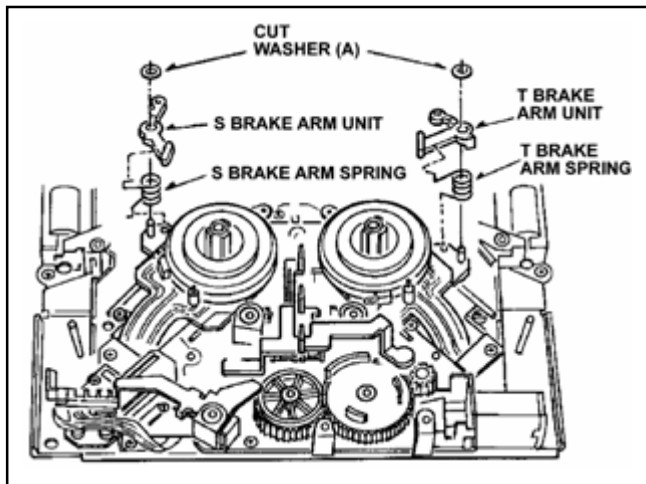

Figure. 5-7-1
2. Remove the cut washers (A) and remove the supply and Take Up Brake Arm Unit as shown in Figure 5-7-1.
1. When install the new Brake Arm Unit, hang on the Brake Arm Spring first as shown in Figure 5-7-1.